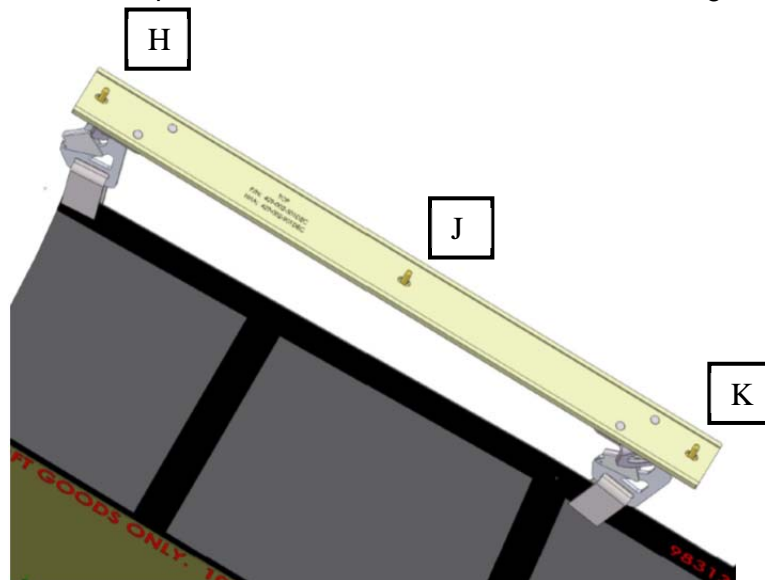

Figure 7.7.1
- 7.7 Continue with the top left hand (**TOP**) bracket assembly. Install the liner screw at location '**H**' through the top slot of the bracket until it is hand tight and will assist in holding the bracket out of the way while the second and third screws at locations '**J**' and '**K**' are installed. Torque all screws to 18-22 in-lbs each. See Figure 7.7.1.